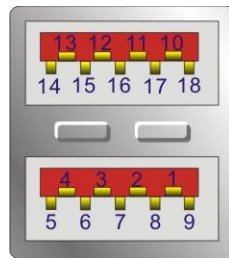

Figure 3-31: External USB 3.2 Gen 2 Connectors Location
- CN Location:** See Figure 3-31